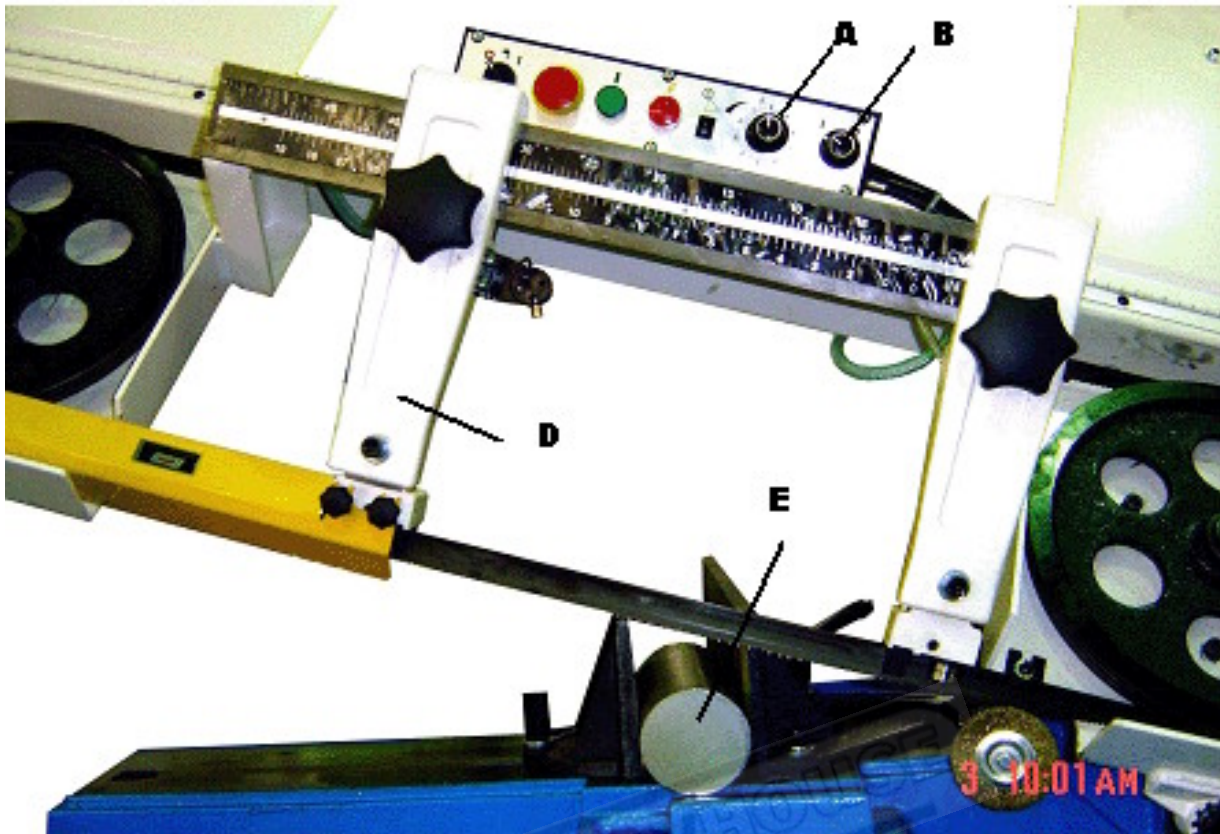

Fig. 20
3. Raise the saw frame and close the feed ion/off knob (E) Fig. 20.
4. Place the stock (B) Fig. 20, between the vise jaws. Adjust the stock for the desired length of cut and tighten the vise clamping hand wheel (C).
5. Make sure the blade guide arm (D) Fig. 20, is adjusted as close as possible to the workpiece.
7. Turn the feed rate control knob (A) Fig. 20, counterclockwise until the saw blade begins to lower at the desired rate of speed.
9. After adjusting the down speed (A), the saw frame position and down movement are controlled by (E) on/off knob.